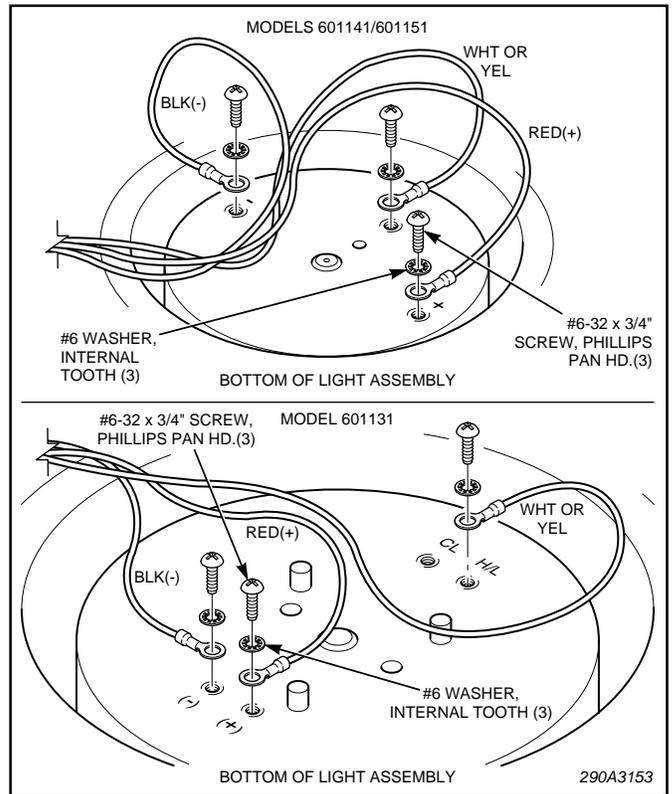

Figure 3.
I. Attach the conductors to the base of the light using the 6-32 x 1/4" screws and #6 lockwashers as shown in figure 3. Ensure that the screws are tightened securely before mounting the light.